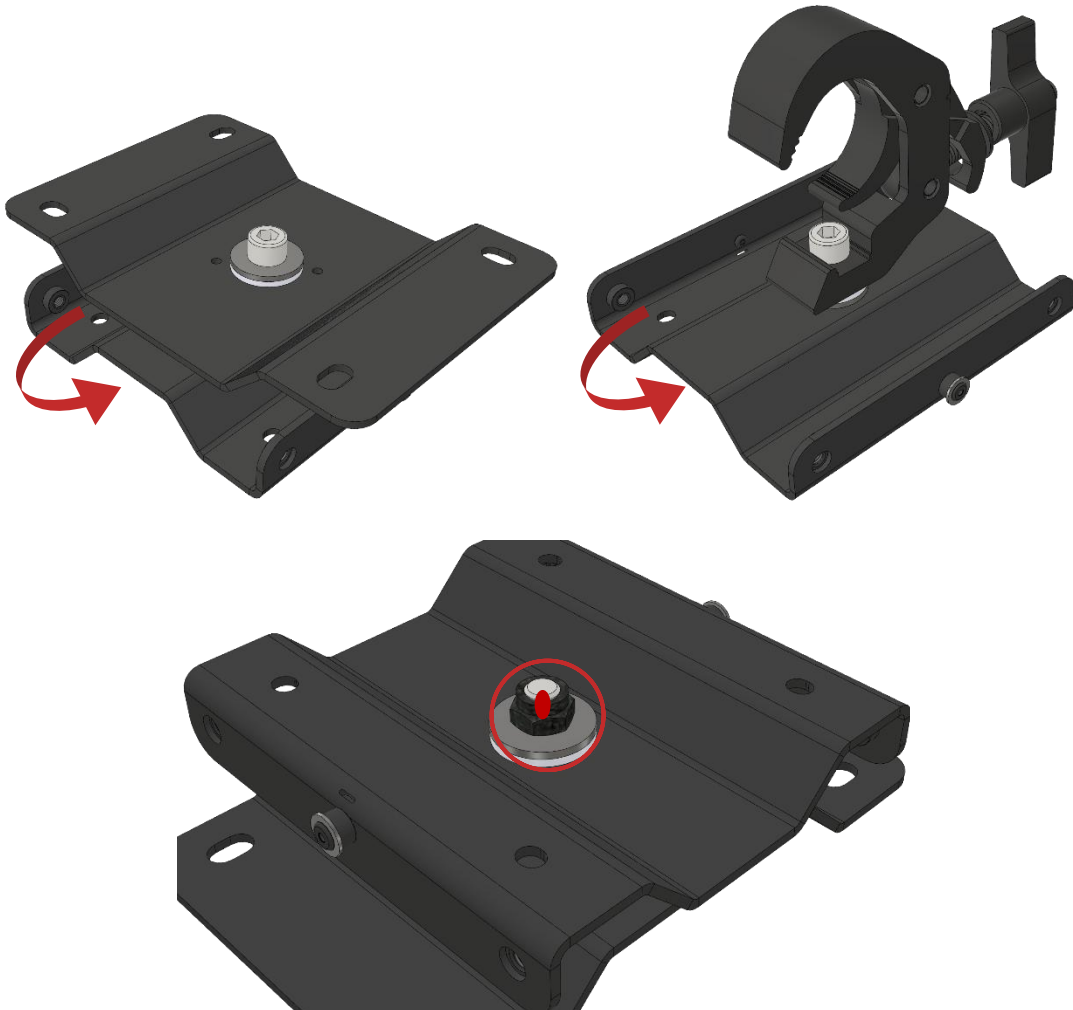

Figure 58 Sealed wax on the ECO-CB and ECO-CLP50 nuts
- On the the screws + nuts of the ECO-CB and ECO-CLP50, shown in the picture below (Figure 58) red sealing wax has been applied to ensure that the nuts remain in the same position and to prevent any attempts to tighten or loosen them.
Except for the three nuts described on the previous section (see Figure 58), please control, with corresponding tool, that all the other screws are properly tightened.